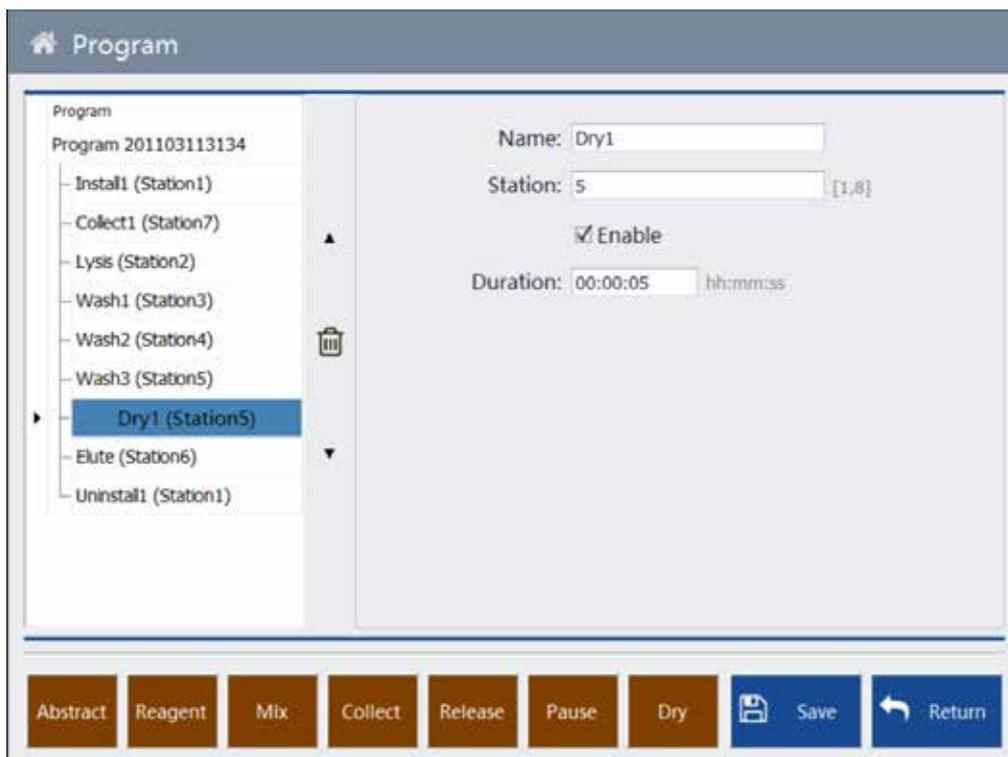

Figure 4-12 Drying
**Drying:** This function lifts the magnetic rod sleeve out of the liquid to dry, as shown in Figure 4-12.